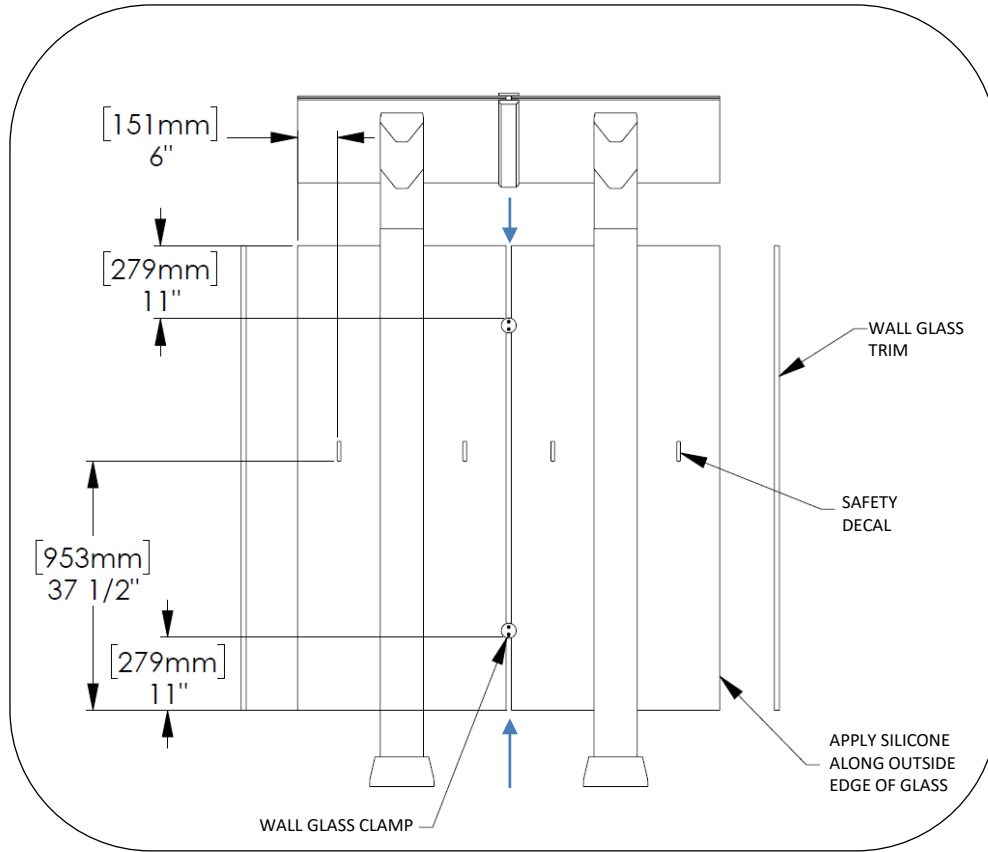

FIG. 14 – INSTALL GLASS TRIM, CLAMPS AND DECALS
19. For multi-post shelters, adjust gap between back glass panels as necessary. Install wall glass clamps as shown in Fig. 14. Fully tighten all hardware.
20. Attach glass decals for bird deterrents, see Fig. 14.
21. Install wall glass trim pieces. Apply bead of outdoor silicone (not included) along edge of outer wall glass panel. Attach U channel trim piece, see Fig. 14.